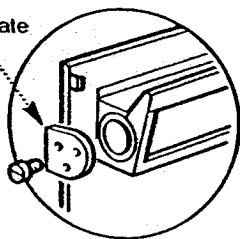

Fig. 54
1. Remove the left or right hand air box blanking plate, as appropriate, from the back plate air box by releasing the three screws (Fig. 54).